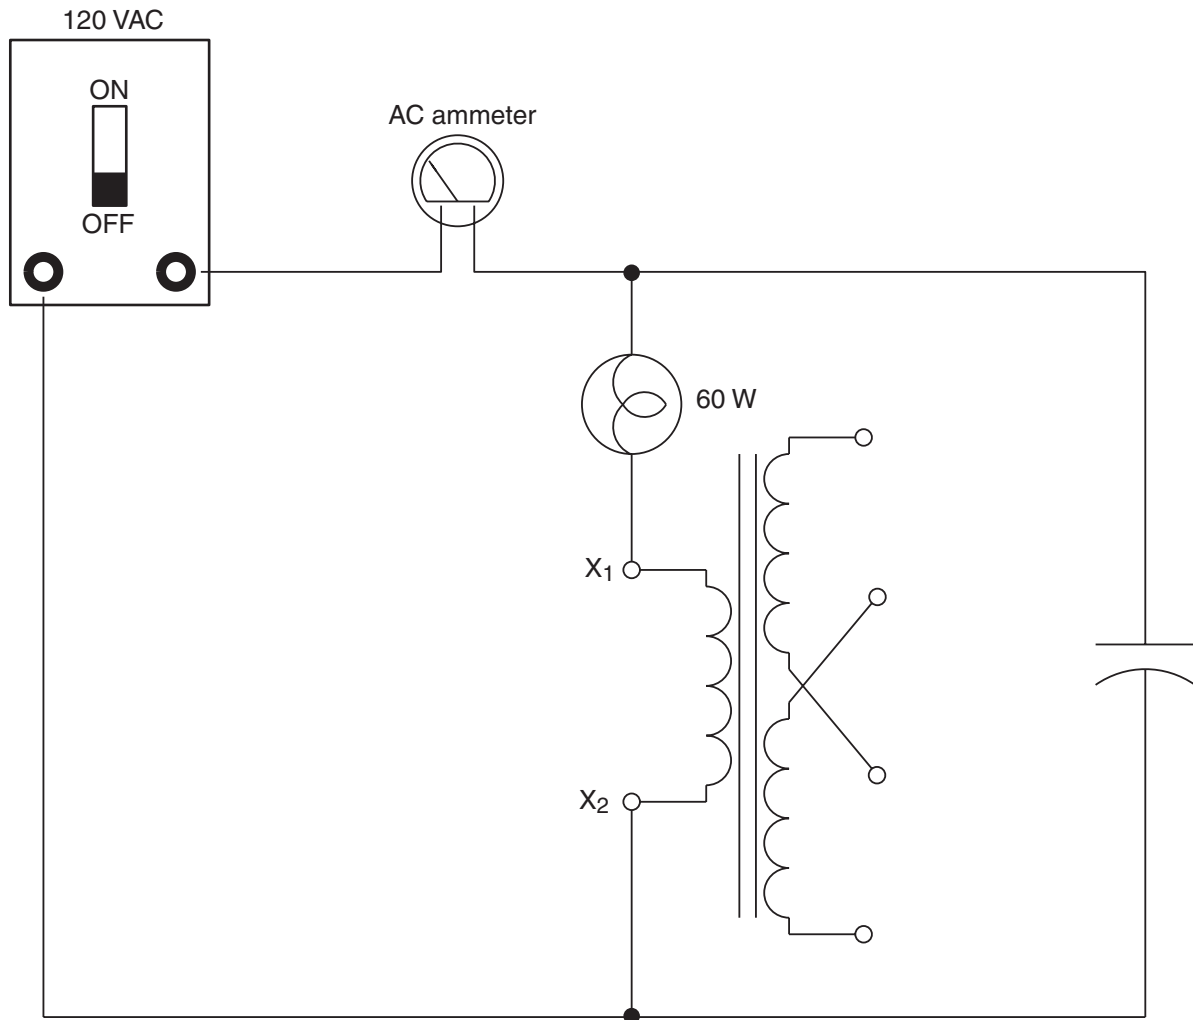

Figure 18-2 Adding capacitance to the circuit.
18. From the capacitors provided in this experiment, select the capacitor that is the nearest value to the capacitor value determined in step 17. Do not go over the computed value. Connect the capacitor across the circuit as shown in Figure 18-2.